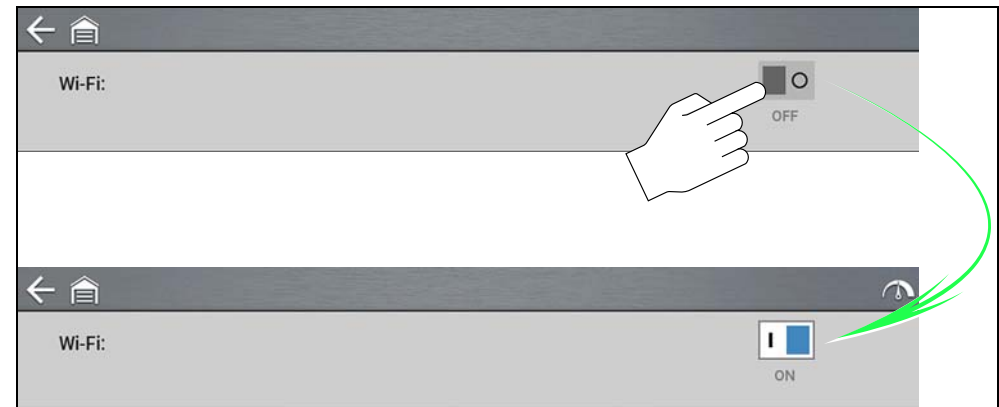

Figure 12-1
- To turn Wi-Fi on/off, select the **Wi-Fi power** icon (Figure 12-1).